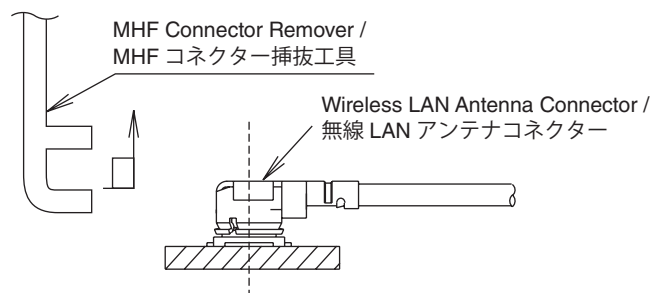

Fig. 3
- To remove the Wireless LAN Antenna Connector, use the special MHF Connector Remover. Hook the tip of this tool on the cover of the Wireless LAN Antenna Connector and pull it straight in the direction of the engaging axis of the Wireless LAN Antenna Connector. (Fig. 3)